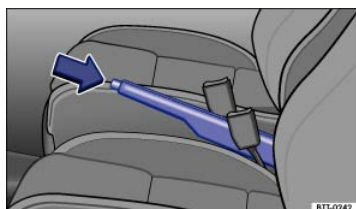

Fig. 129 Between the front seats: Parking brake.
- Pull the lever up slightly and press the release button ⇒ Fig. 129 (arrow).